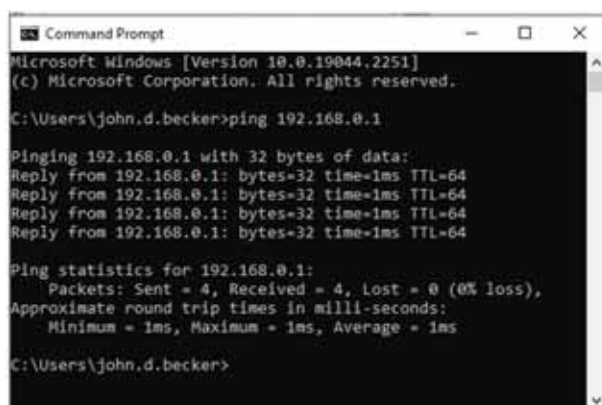

Figure 1-10. PC input prompt
- Open the PC input prompt and enter “ping 192.168.0.1” (Fig. 1-10).